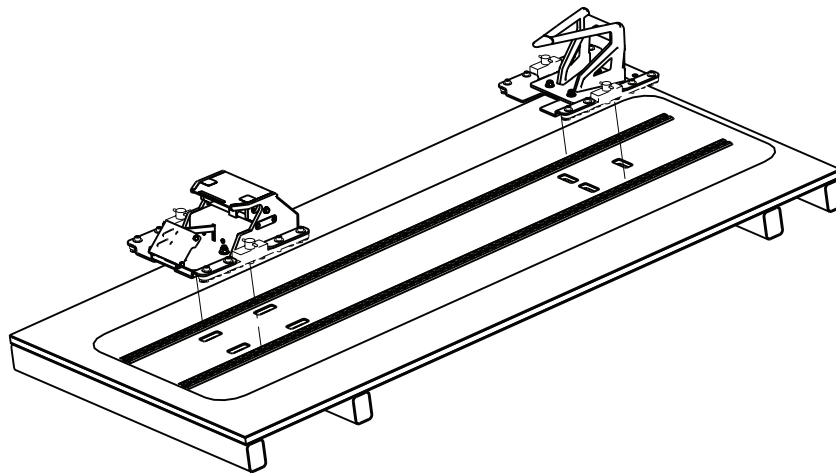

Figure 8 – Head end and foot end fastener - floor track installation
9. Repeat steps 5-8 to install the head end fastener to the floor track (Figure 8).